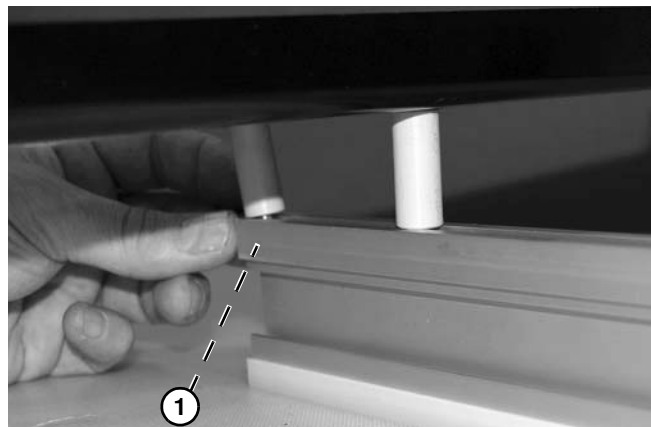

Figure 60
4. Continue to slide first weld nut in channel, and install second weld nut (**Figure 60, item 1**).